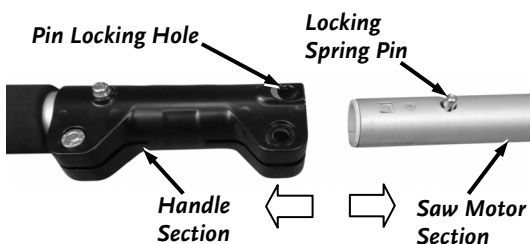

Figure 14
3. Push in the Locking Pin and pull the Handle and Motor sections apart (**Figure 14**).